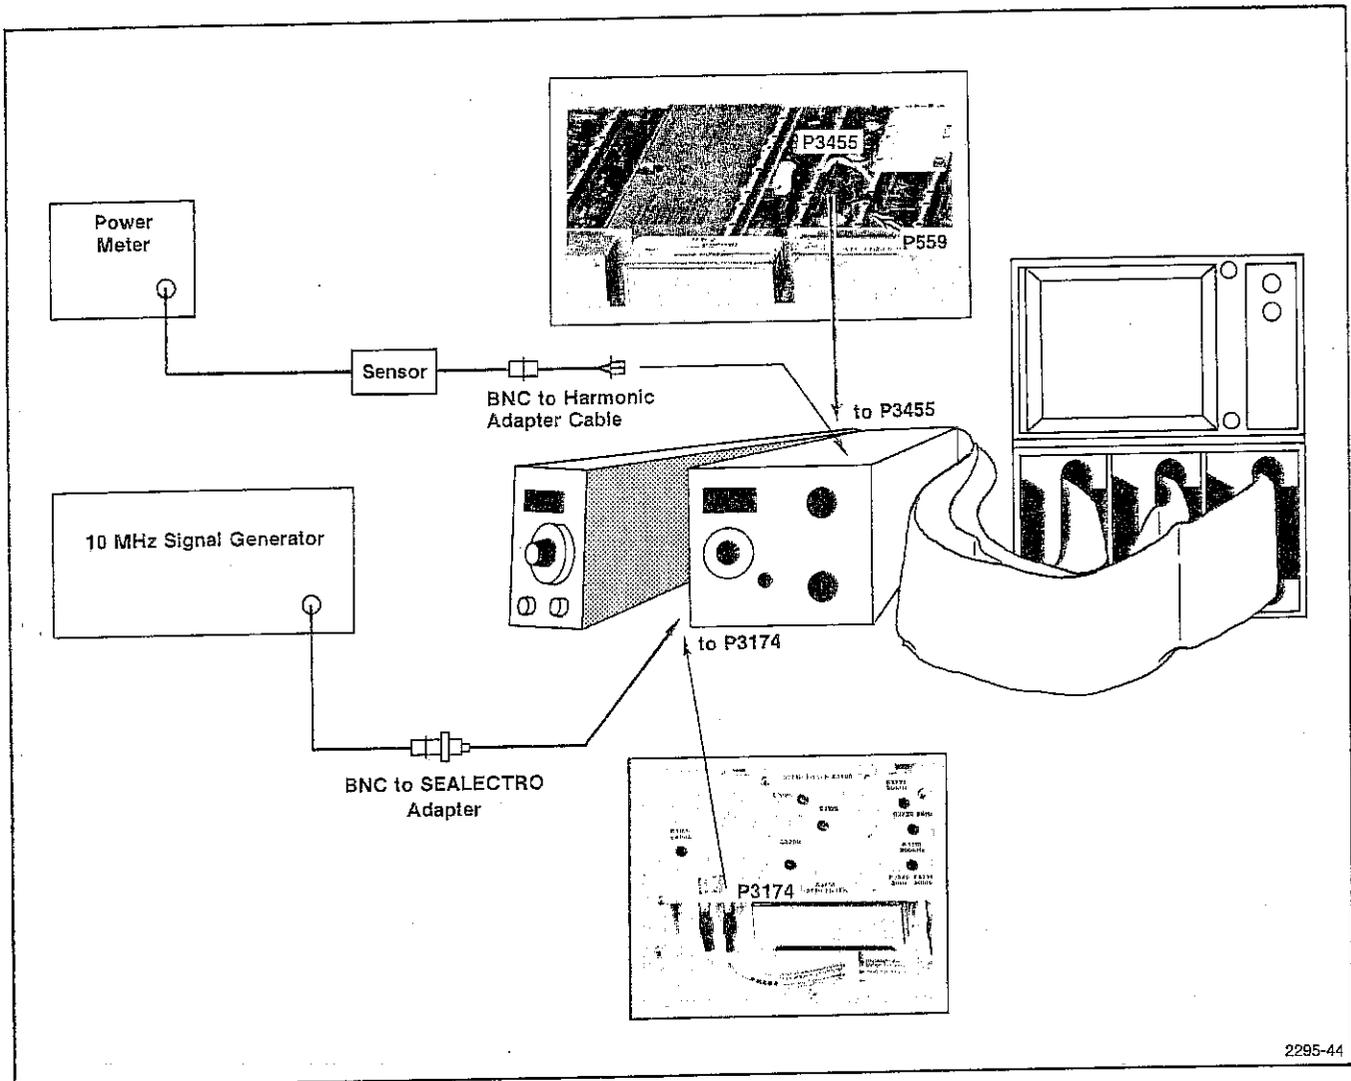

Fig. 4-36. Test Setup for Calibrating VR Circuits.
- a. Test equipment setup is as shown in Fig. 4-36.
- c. Disconnect P3455 from the output of the VR Noise Filter (see Fig. 4-36) and connect a power meter (i.e., HP 435A/8489A) to connector J3455. (Use a bnc-to-harmonic adapter such as that described for Adjusting Log Amplifier
module.) Disconnect P3174 (cable is input to 300 Hz Filter, see Fig. 4-36 or 4-37) on the VR module. Apply a 10 MHz, -10 dBm signal, from the signal generator, through a coaxial cable and bnc-to-male Sealectro adapter to the cable plug, P3174.